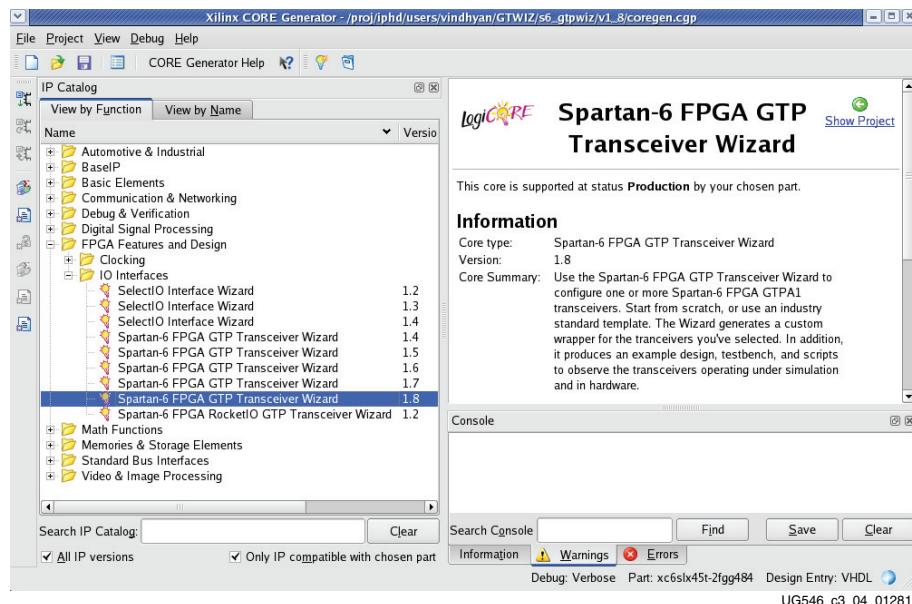

Figure 3-6: Locating the GTP Transceiver Wizard
1. Locate the Spartan-6 FPGA GTP Transceiver Wizard 1.11 in the taxonomy tree under: /FPGA Features & Design/IO Interfaces. (See Figure 3-6)